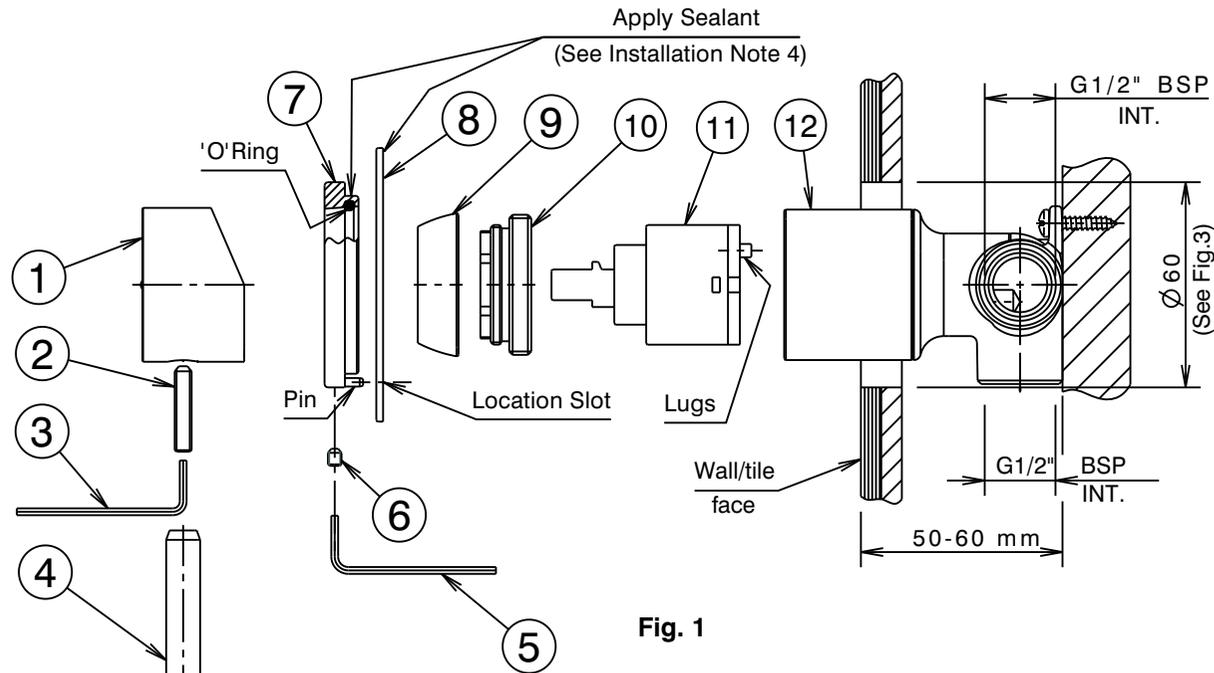
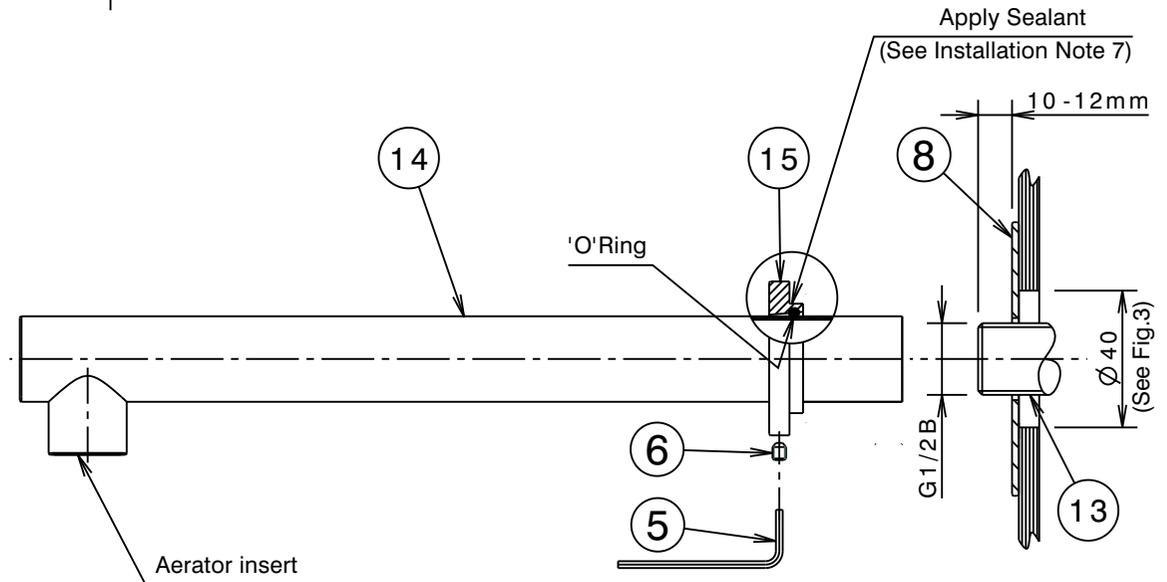

Fig. 1
Fig. 4
Installation (Fig. 1 & 3)
- * Mixer body (9-13) must be installed square to wall/tile face and horizontal to ensure cover plate (8) aligns with finished tile joints.
- 2) *Trim:* Remove protective cap from mixer body (12) and make sure the external surface of mixer body (12) is clean. Apply a suitable clear sealant to the back face of the wall cover plate (8), leaving an unsealed section at the bottom for drainage. Apply a suitable clear sealant in the corner around the location diameter of the retaining ring (7) to prevent water entering the wall cavity (See Fig 1).
- 3) Carefully fit the wall cover plate (8) followed by the retaining ring (7) onto the mixer body (12), ensuring the pin in the retaining ring is engaged in the location slot (with the screws at the bottom). Push the retaining ring and wall cover plate firmly against the wall/tile face and tighten screws (6) using 2mm allen key (5). Wipe clean any excess sealant from the decorative surfaces & the wall/tile face. (See Fig.1)
- 4) Fit handle (1) as shown, taking care that it is pushed fully onto cartridge stem, then tighten grub screw (2) using 2.5mm allen key (3). Screw handle lever (4) onto grub screw (2) and tighten by hand.
- 5) Check that thread (13) is the correct length, as shown. Cut to length if required ensuring end face is square. Apply thread tape to the thread of body outlet (13).
- 6) Apply a suitable clear sealant in the corner around the location diameter of the retaining ring (15) to prevent water entering the wall cavity (See Fig.4). Slide the retaining ring (15) onto the basin outlet (14). Screw the inlet of the basin outlet (14) onto the thread of the body outlet (13) until its base is adjacent to the wall cover plate, then screw on a further 2-3 turns and position so that the aerator insert is pointing down as shown, taking care not to damage the decorative finish. DO NOT OVERTIGHTEN. Push the retaining ring (15) firmly against the wall cover plate (8) and tighten screws (6) using 2mm allen key (5).
Replacing Cartridge (Fig. 1)